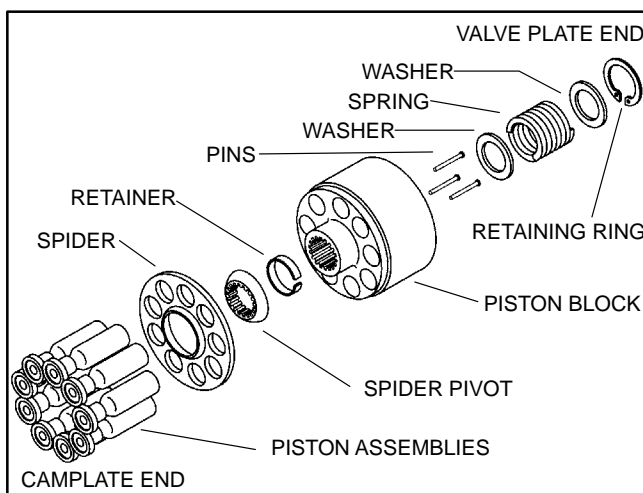
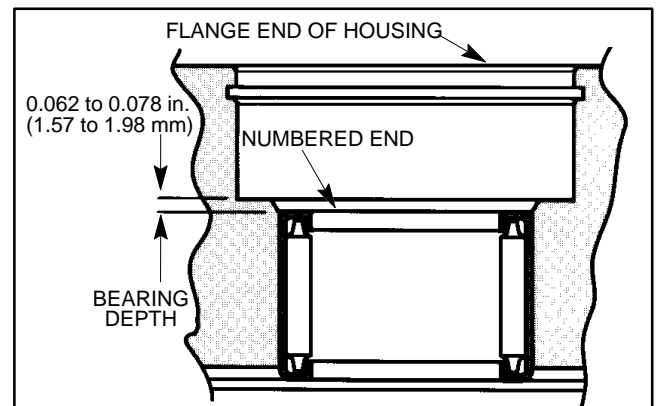

Figure 26
Figure 29
11. The rotating parts kit (29) can be removed from the shaft (31) as follows:
A. Hold rotating parts kit (29) in place and remove the pump from the vise.
B. Position the housing assembly (15) end of the pump up and lower the shaft (31) through the hole in the table or workbench. Allow rotating parts kit (29) to rest on the table.
C. Remove rotating parts kit (29) by lifting away the housing assembly (15) and shaft (31).
12. The rotating parts kit (29) can be disassembled as follows (see Fig. 26):
A. Verify that bearing depth on the numbered end meets the dimension in Figure 29.
6. Inspect rotating parts kit (see Fig. 26).
2. If necessary, press new bearing (14) into housing assembly (15) to the dimension shown in Figure 29.
3. Insert camplate (20) into the housing assembly (15).
4. On the short trunnion side of the camplate (20), install bearing (13) with numbered side to the inside of the pump. Install inner race (12) with the chamfer towards the inside of the pump. Install washer (11), O-ring (10), O-ring cover (9), and trunnion cover (8). Secure trunnion cover with two screws (7) torque them from 36 to 48 in-lb (42 to 55 kg-cm).
5. On the long trunnion side of the camplate (20), install bearing (13) with numbered side to the inside of the pump. Install washer (11) and press shaft seal (17) into place. Secure seal cover (16) with two screws (7) and torque them from 36 to 48 in-lb (42 to 55 kg-cm).
6. Install retaining ring (32) towards the keyed end of the shaft (31). Slide washer (33), thrust bearing (34), second washer (33), and second retaining ring (32) into place over the splined end of the shaft.
7. Position washer (35) and shaft seal (36) onto the shaft (31) from the keyed end.
8. Install shaft (31) into the housing assembly (15) from the flanged end. Press shaft seal (36) into position with a seal driver. Install retaining ring (37) into the flanged end of the housing assembly (15).
9. Reassemble rotating parts kit as follows (Fig. 26):